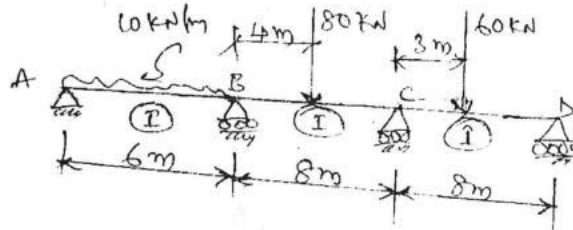

Fig. Q7
- 7 Analyse the continuous beam shown in Fig. Q7 by flexibility method and draw bending moment diagram. Take  $EI$  constant. (20 Marks)